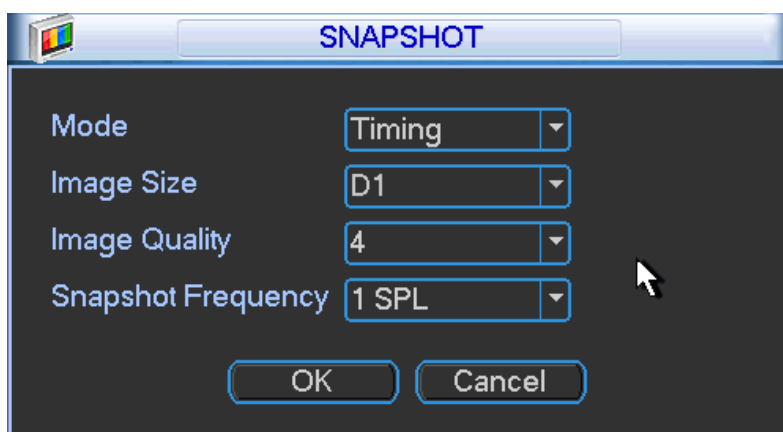

Figure 5-38
Select the snapshot channel from the dropdown list and then click Snapshot button. See Figure 5-38.
- Select the motion detect snapshot channel and then click Snapshot button. See Figure 5-38.
- In Figure 5-38, select activation snapshot from the dropdown list and then set picture size, quality and snapshot frequency. Click OK button to save current setup.
From Main menu->Setting->Schedule, you can go to schedule interface. See Figure 5-38. Check the box here to enable holiday function and snapshot function. Set period as Holiday.